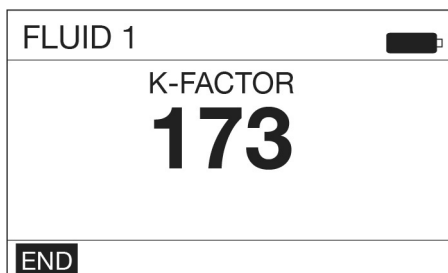

FIG. 63
6. When exactly one (1) quart or one (1) liter of fluid is dispensed into the flask use the center **ENTER** button on the keypad to select **END**. A screen displaying the quantity of fluid dispensed displays (FIG. 63 shows an example of the dispensed volume screen).